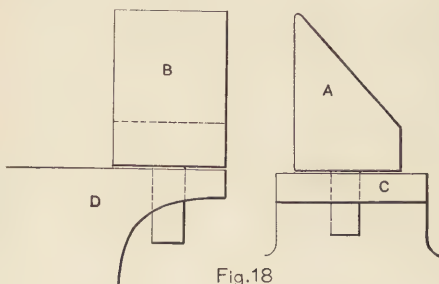

Fig. 18
**Bevel Set.**—In Fig. 18 is a bevel bottom set that takes the place of a fuller and must be used in conjunc-
small fillet *x* and produces a straight, square shoulder on the work. In Fig. 18 *A* is the end view and *B* the